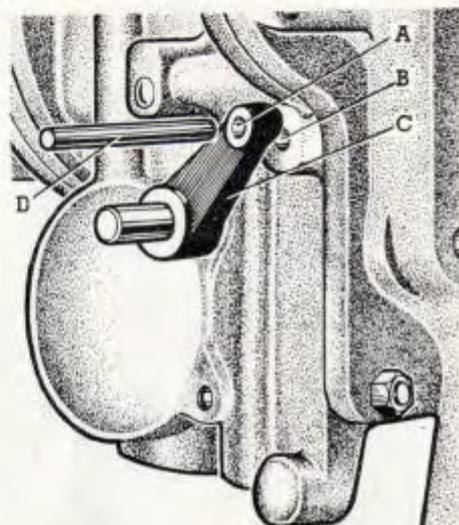

Fig. 1
1. Insert a  $\frac{3}{8}$ " pin (D) through the hole (A) in the setting lever (C) into the setting hole (B) on the right hand of the casing. The operating valve in the unit is now held open. Fig. 1.